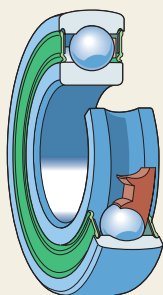

Fig. 20
- consist of a stamped sheet steel washer with a seal lip made of NBR, vulcanized to its inner surface (fig. 20, designation suffix VP274 for bearings with a standard inner ring and no designation suffix for other insert bearings)